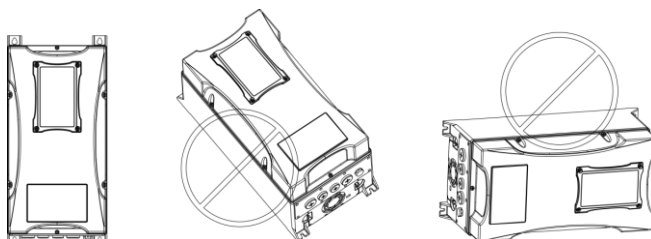
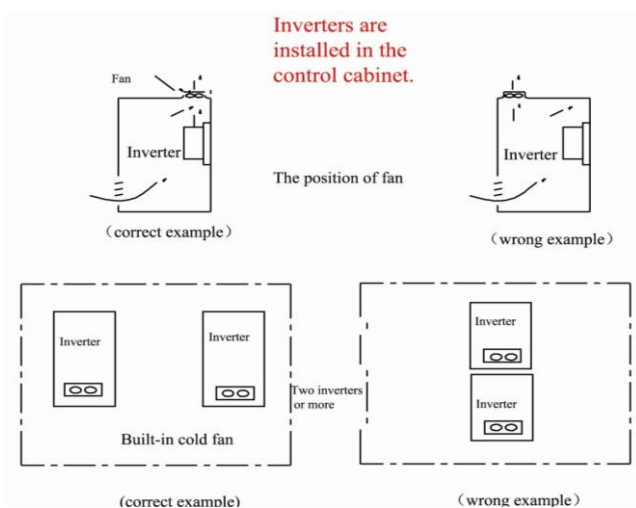

Fig 1-4 Installation Diagram
Fig 1-5 Installation in Cabinet Diagram
- Inverter is installed in a control cabinet, and smooth ventilation should be ensured and inverter should be installed vertically, upside-down is not allowed (Fig 1-4). If there are several inverters in one cabinet, in order to ensure ventilation, please install inverters side by side. If it is necessary to install several inverters up and down, please add heat-insulation plate(Fig 1-5).